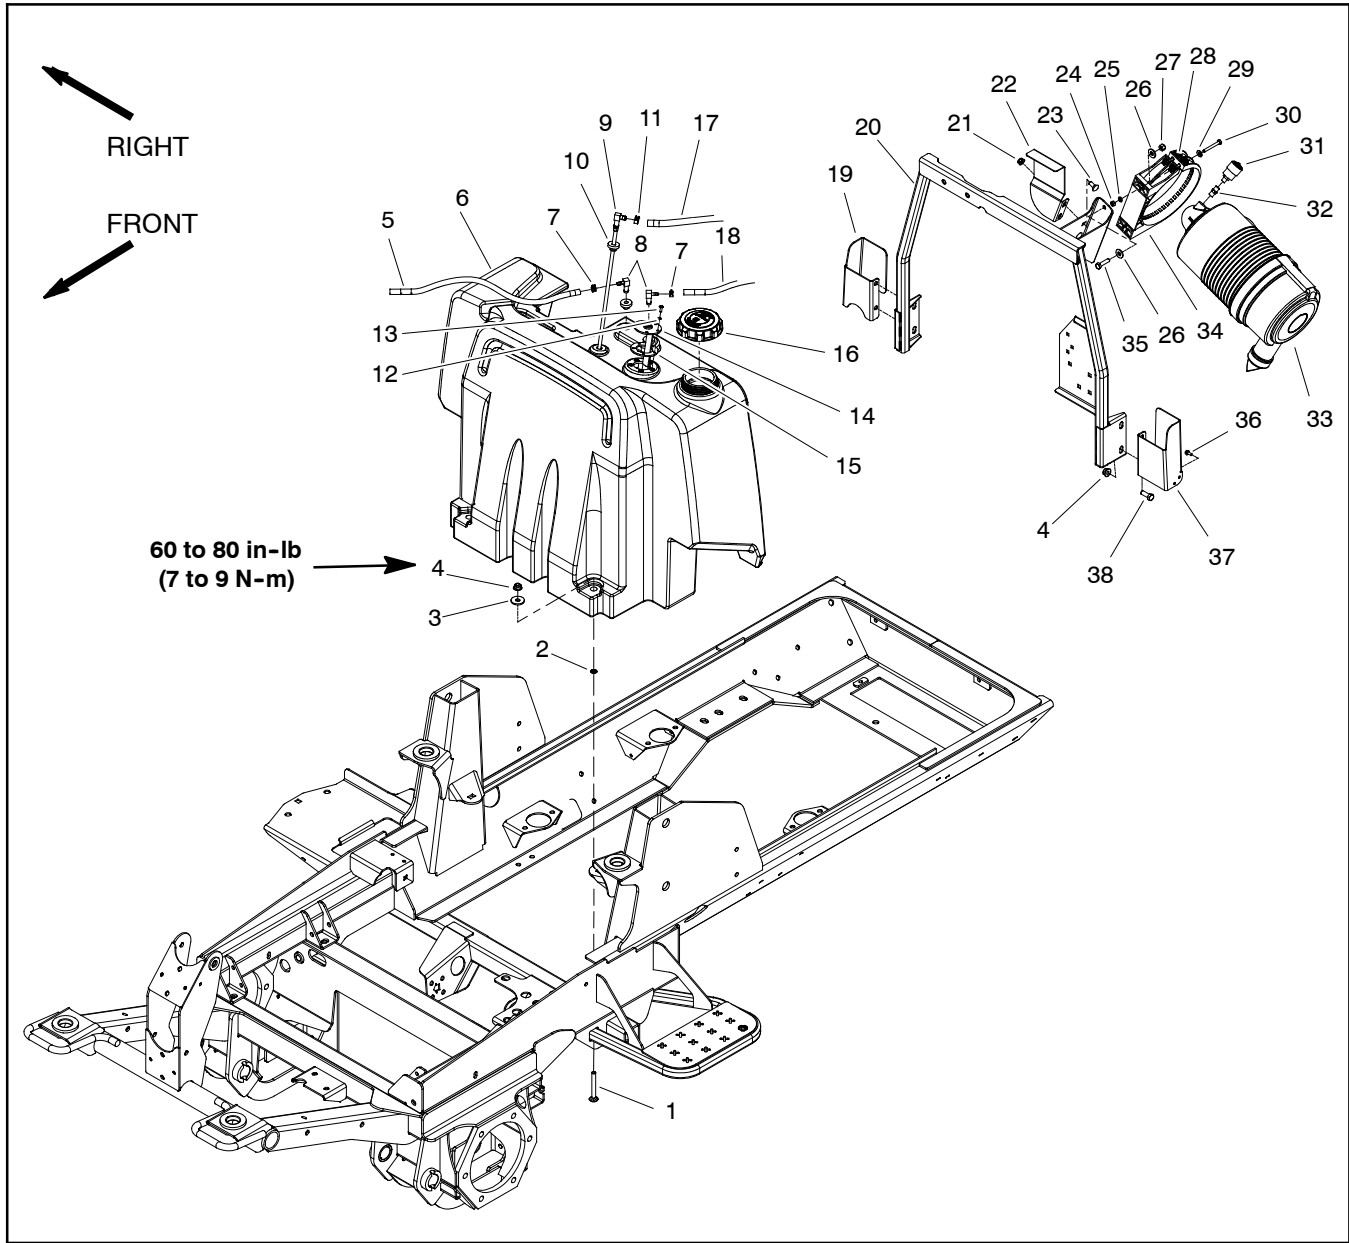
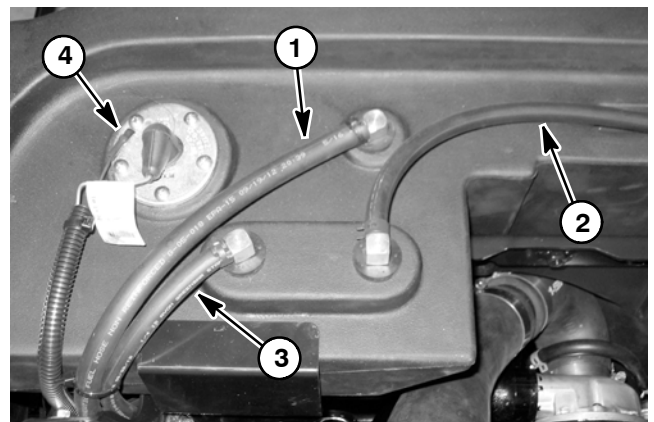

Figure 9
Figure 10
Fuel Tank Removal (Fig. 9)
NOTE: Fuel sender may have two (2) wire harness terminals (shown in Fig. 10) or a single harness connector.
4. Disconnect wire harness connections from the fuel sender (item 14).
5. Disconnect fuel supply, vent and return hoses from elbow fittings in top of tank (Fig. 10).
6. Remove fuel tank using Figure 9 as a guide. Tank is secured to frame with fasteners (items 1, 2, 3 and 4) on the forward side and bracket (item 22) on the rear side.
Fuel Tank Installation (Fig. 9)
1. Install fuel tank using Figure 9 as a guide. When securing tank to frame, follow the following sequence:
- A. Loosely install fasteners on front of tank (items 1, 2, 3 and 4).
- B. Install and tighten bracket (item 22) at rear of tank.
- C. Torque two (2) flange nuts (item 4) from **60 to 80 in-lb (7 to 9 N-m)**.
2. Connect fuel supply hose to the standpipe and vent and return hoses to the elbow fittings (Fig. 10). Secure hoses with clamps.
3. Secure wire harness connector(s) to fuel sender. On senders with two (2) wire harness terminals, apply skin-over grease (see Special Tools in this chapter) to harness terminals after installation.